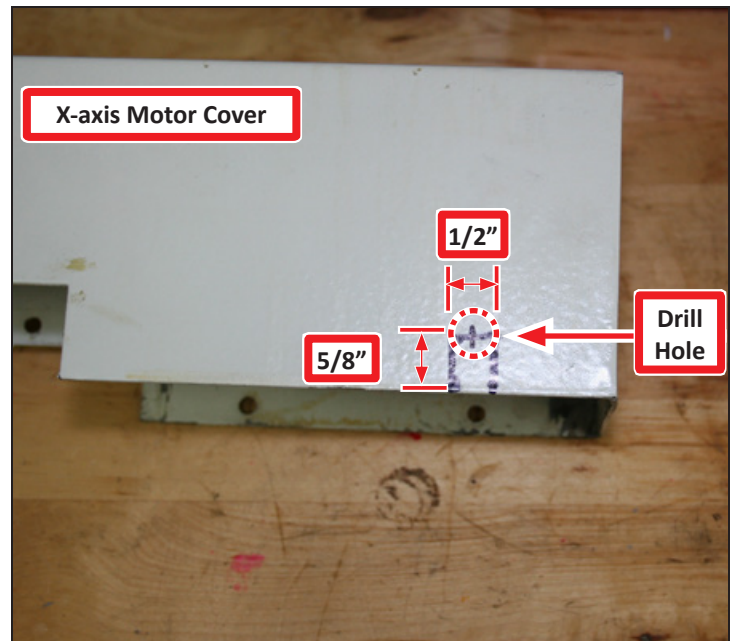

Figure 52
13. Mark a cutout slot — $5/8"$ x $1/2"$ — on the X-axis motor cover as shown in **Figure 52**.
14. Use a $1/2"$ Drill bit to drill a hole at location shown in **Figure 52**.